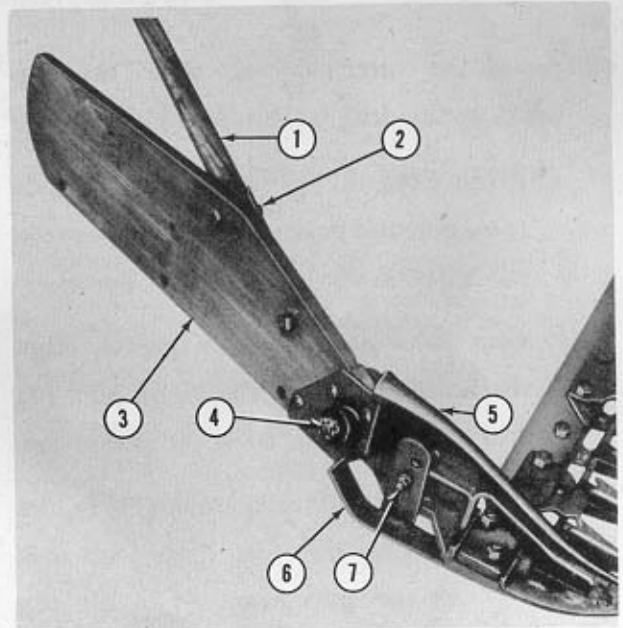

Figure 9
- a. Position the swathboard (3), Figure 9, on the right side of the outer shoe (5) and insert a $\frac{1}{2}$ " x 2 $\frac{3}{4}$ " bolt (4) from the left through the swathboard.
- b. Place a flat washer, the spring, and then another flat washer on the bolt (4) and secure with the castellated nut and cotter pin provided.
- c. Insert the tapered end of the wooden grass stick (1), Figure 9, into the grass stick clamp as shown and secure with the bolt (2), flat washer, lock washer and nut provided.